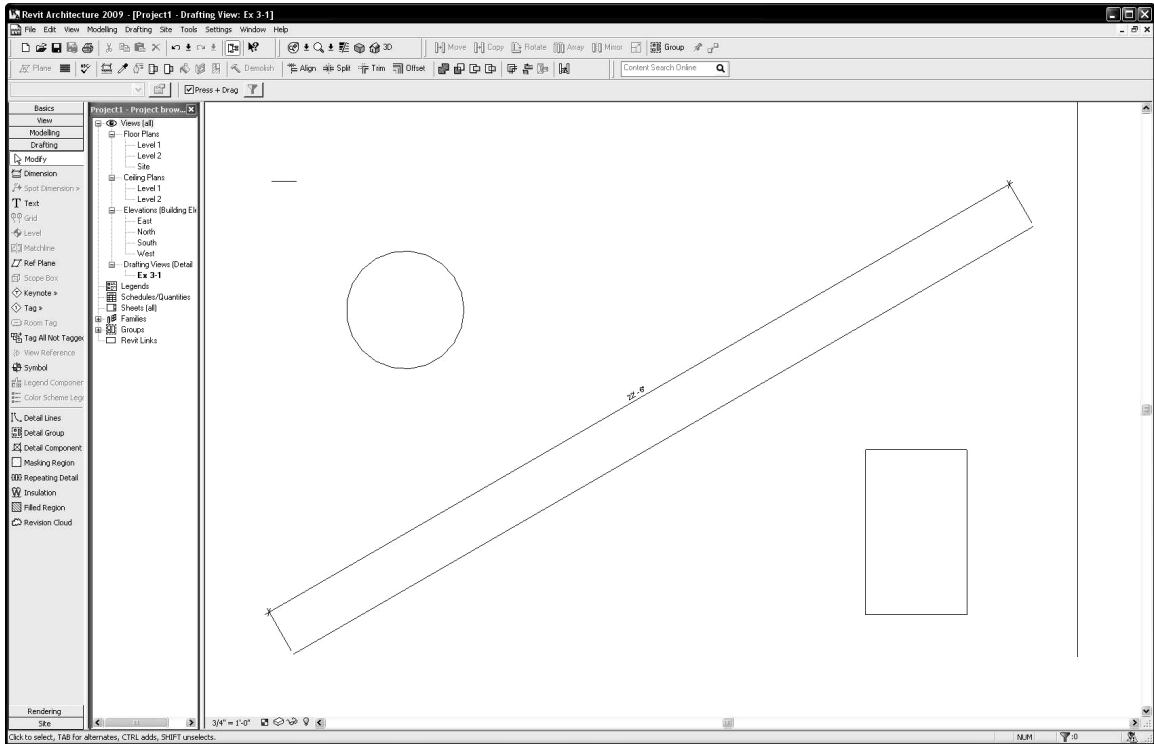

Figure 3-1.17 Drawing with Circle added
47.Type **1 6 5/8** and then press **Enter** (Figure 3-1.17).